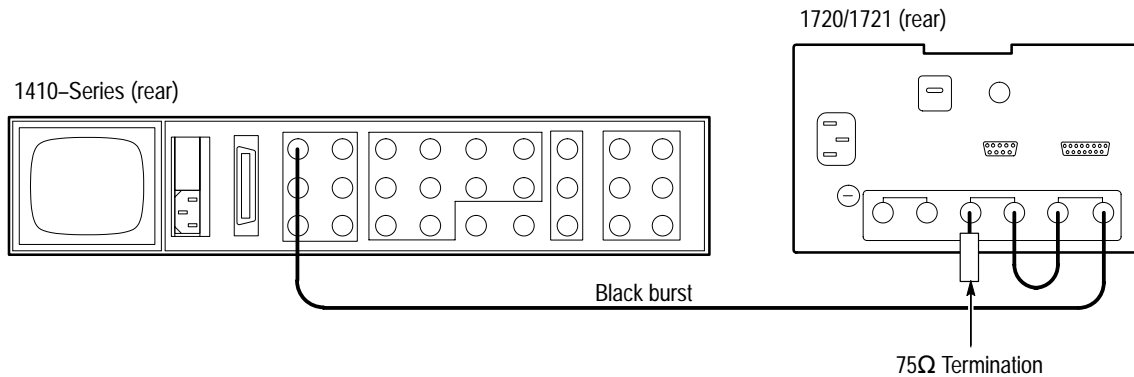

Figure 5-2: Loop-through connection of black burst signal to both EXT REF and CH-B.
- a. Disconnect the color bar signal and loop-through connect the black burst output from the 1410 (1411 or 1412) SPG2 Mod AA as shown in Figure 5-2.